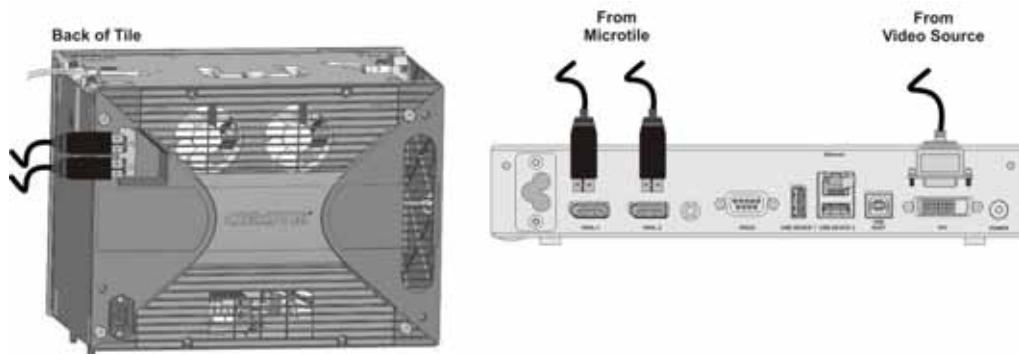

Figure 2-20 Connecting Sources
1. Connect the DVI-D output from the video source (i.e., media player) to the DVI-D input on the ECU (Figure 2-20).